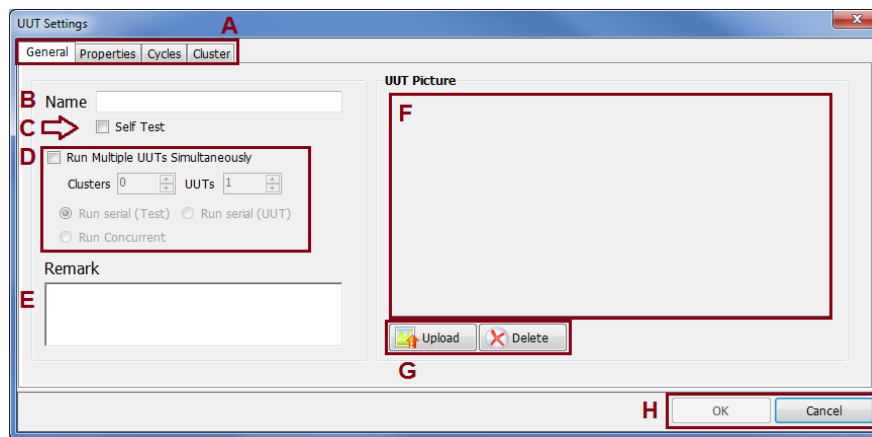

Fig 5-2 UUT Settings window – general tab
Ensure you provide a name for the UUT - Fig 5-2 \(B\).
2. Self-test - Fig 5-2 \(C\).
3. Run multiple UUTs - Fig 5-2 \(D\).
- 3.1. Select the Run Multiple UUTs Simultaneously checkbox - Fig 5-2 \(D\).
Enter the remark by typing it in the provided field - Fig 5-2 \(E\).
- Click the  button - Fig 5-2 \(G\), to open the **Open** screen.
From the picture buttons Fig 5-2 \(G\), click the  button.
The UUT's picture is cleared from the UUT picture area Fig 5-2 \(F\).